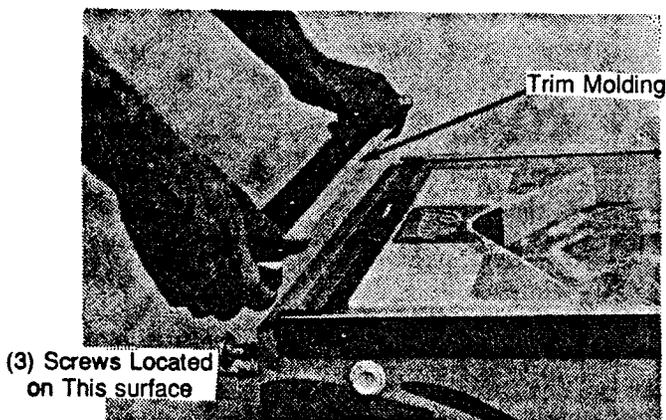
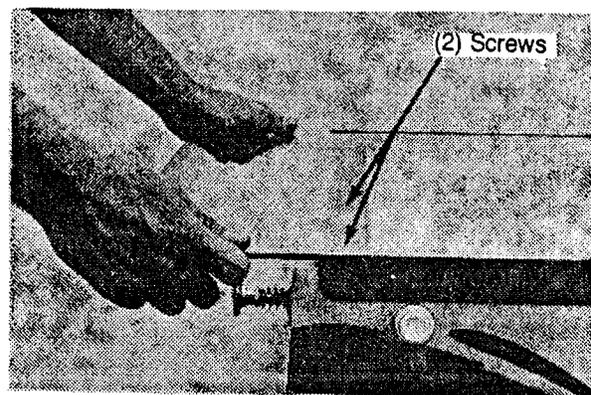
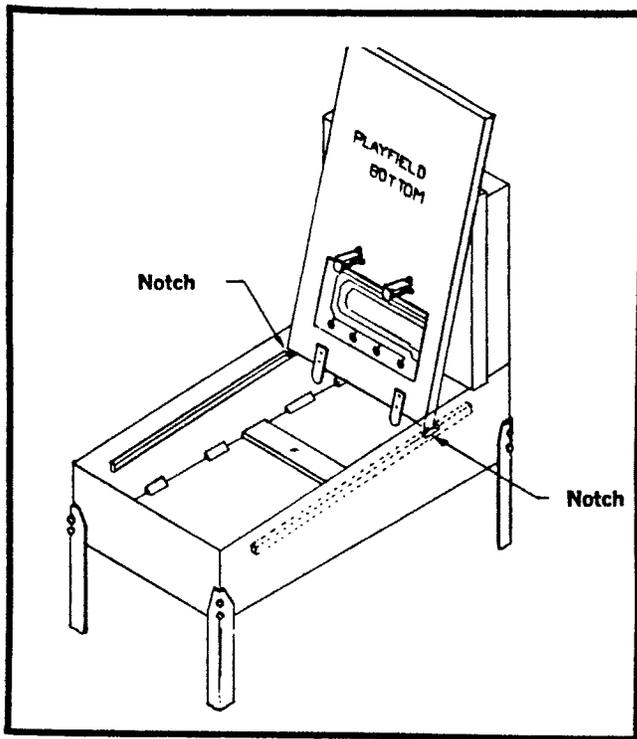

Fig. 9-32. Removing the trim molding to gain access to the playfield. Take out the three screws as indicated to remove the molding.
Fig. 9-33. Sliding out the glass. Remove the two screws shown, then carefully slide out the glass.
Fig. 9-34. Positioning the playfield. Place the playfield in the two notches shown, then let it rest against the cabinet back.
Remove the playfield glass as shown in Figs. 9-32 and 9-33. Wipe the playfield surface with a soft rag or slightly dampened towel.
Remove the three screws in the front of the cabinet as shown in Fig. 9-32. Lift off the trim molding. Carefully slide out the playfield glass as shown in Fig. 9-33. Remove the two screws in the bracket holding down the playfield as shown in Fig. 9-33. Raise the playfield from the front and place it
against the cabinet back box with the playfield resting in the notches provided in the playfield support rails. Refer to Fig. 9-34. The playfield bottom (lamps, switches, and solenoids), flipper switches, tilt assembly, and power supply are now easily accessible.
1. Remove the playfield glass as shown in Figs. 9-32 and 9-33. Raise the playfield as shown in Fig. 9-34.
3. Remove the playfield glass as shown in Figs. 9-32 and 9-33. Raise the playfield as shown in Fig. 9-34.
1. Remove playfield glass as shown in Figs. 9-32 and 9-33. Raise the playfield as shown in Fig. 9-34.
1. Remove the playfield glass. See Figs. 9-32 and 9-33.
2. Raise the playfield and position it as shown in Fig. 9-34.
1. Remove the playfield glass. See Figs. 9-32 and 9-33. Raise the playfield into position. See Fig. 9-34.